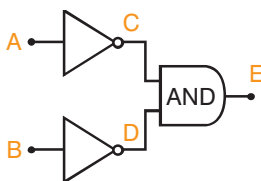

Figure 5.87
4. Complete the truth table for the arrangement of gates shown in Figure 5.87.